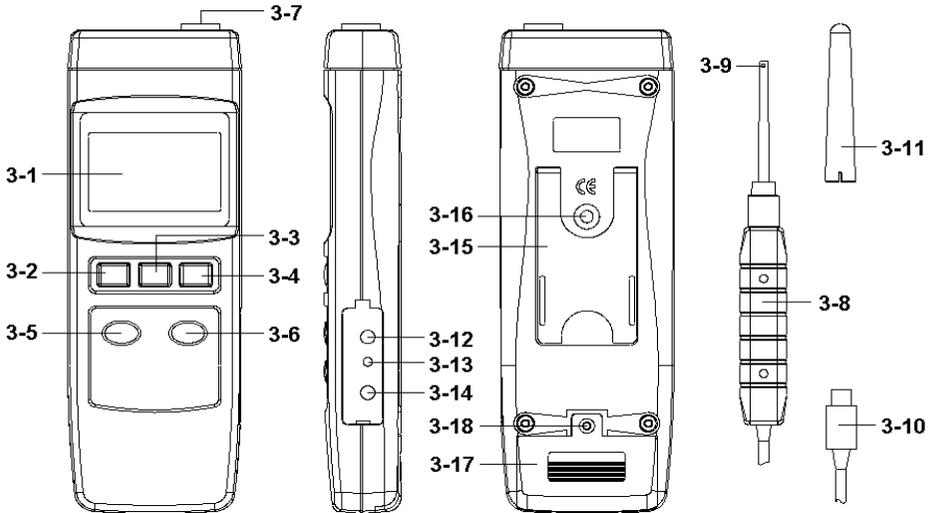

Fig. 1
- 1) Power ON the meter by pressing the " Power Button " ( 3-2, Fig. 1 ) once.
- 2) Press the " Mode Button " ( 3-6, Fig. 1 ) once , the Display will show the following screen in sequence :
- \* Before the measurement, fix the probe at the exact position, press the " ZERO Button " ( 3-5, Fig. 1 ), in the same time the display will show the " 0 " indicator.
During the measurement, press the " Hold Button " ( 3-3, Fig. 1 ) once will hold the measured value & the LCD will display a " HOLD " symbol.
- \* The data record function records the maximum and minimum readings. Press the " REC Button " ( 3-4, Fig. 1 ) once to start the Data Record function and there will be a " REC " symbol on the display.
a) Press the " REC Button " ( 3-4, Fig. 1 ) once, the " REC MAX " symbol along with the maximum value will appear on the display.
If intend to delete the maximum value, just press the " Hold Button " ( 3-3, Fig. 1 ) once, then the display will show the " REC " symbol only & execute the memory function continuously.
- b) Press the " REC Button " ( 3-4, Fig. 1 ) again, the " REC. MIN " symbol along with the minimum value will appear on the display.
If intend to delete the minimum value, just press the " Hold Button " ( 3-3, Fig. 1 ) once, then the display will show the " REC " symbol only & execute the memory function continuously.
Press the " SET Button " ( 3-6, Fig. 1 ) continuously at least two seconds will enter the " Advanced Setting " mode, then press the " SET Button " ( 3-6, Fig. 1 ) once a while in sequence to select the three function, the lower Display will show :
- 1) Use the " REC Button " ( 3-4, Fig. 1 ) to enter will enter into the setting of " Auto power off management ".
Press the " Mode Button " ( 3-6, Fig. 1 ) once in sequence to select upper text to " yES " or " no ".
- 2) After select the desiring function ( YES or no ), press the " REC Button " ( 3-4, Fig. 1 ) to save the function with default.
- 1) Use the " REC Button " ( 3-4, Fig. 1 ) to enter will enter into the setting of " Select the measurement unit of mT or G "
Press the " Mode Button " ( 3-6, Fig. 1 ) once in sequence to select the Display text to " t " or " g ".
- 2) After Display unit is selected to " mT " or " G ", press the " REC Button " ( 3-4, Fig. 1 ) will save the setting function with default.
The instrument has RS232 PC serial interface via a 3.5 mm terminal ( 3-12, Fig. 1 ). The data output is a 16 digit stream which can be utilized for user's specific application. A RS232 lead with the following connection will be required to link the instrument with the PC serial port.